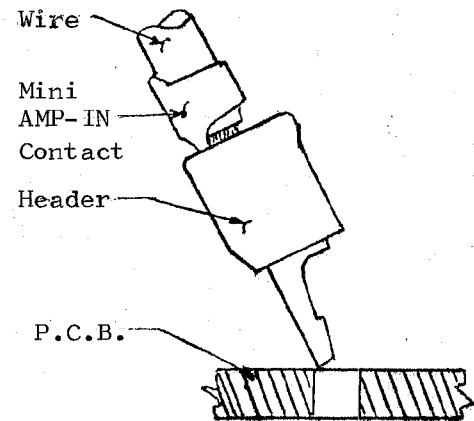

Fig. 2
3.1 As you insert header-loaded contacts in PCB holes, tilt the header toward you a little, so that the contact end alignment is visible and easy to control as shown in Fig. 2. Confirm right positioning of contacts with the holes.